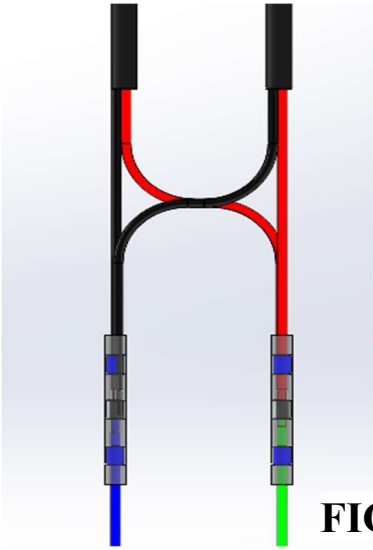
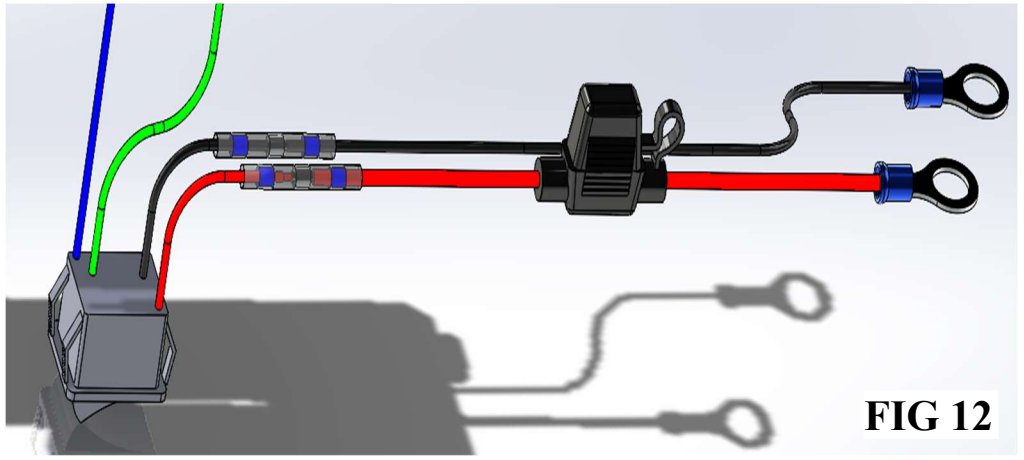
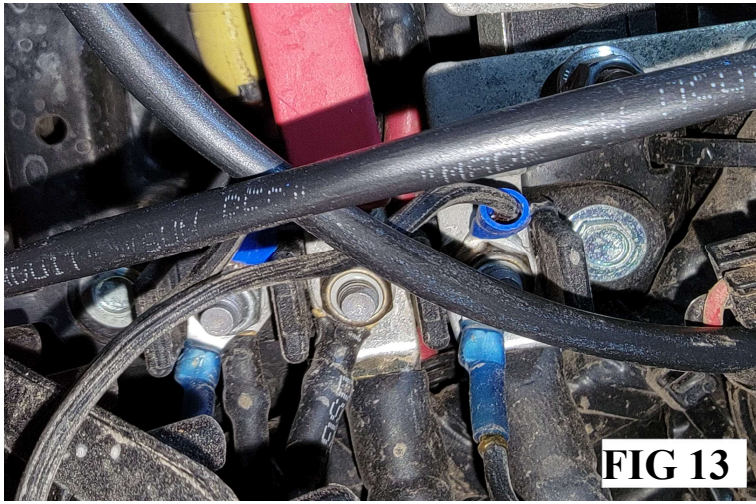

FIG 11
FIG 12
FIG 13
Remove the rocker panel from the dashboard using a flat screwdriver. Choose the location on which you want to mount the Rocker Switch. Using a Dremel (or similar cutting apparatus) cut the dash panel to accommodate the Rocker Switch as shown in FIG 9. Next, you will need to run the actuator leads from both the driver and the passenger side down behind the dashboard. Insert the (2) black wires from the actuators and place them inside one end of the Solder Seal Connector and insert the blue wire from the Rocker Switch into the other end of the Solder Seal Connector and shrink the connector using a heat gun or lighter as mentioned on the previous page as shown in FIG 10 and FIG 11. Do the same for the (2) red wires and insert the green wire from the Rocker Switch to the other end of the Solder Seal Connector and shrink as mentioned. Next, insert the black wire from the rocker switch and install a terminal connector and crimp as shown in FIG 12. Install the 15a Fuse into the Fuse Link. Cut the red wire on the fuse link in the middle. Install a terminal connector on one side and use the last remaining Solder Seal Connector on the other end to connect to the red wire on the rocker switch as shown in FIG 12. Run the terminal connectors to the bus bar under the dash and install as shown in FIG 13. Turn vehicle to the "On" position to insure that power is going to the rocker switch to activate the actuators.